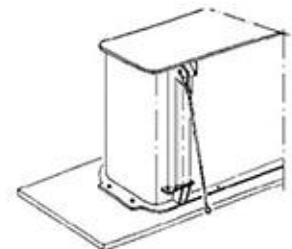

Figure 2. Position of the transformer on the trailer
- As indicated in figure 2 the transformer must go as centered as possible in relation to the trailer.
- In each corner there should be at least two (2) tie-down hooks to secure the tank.